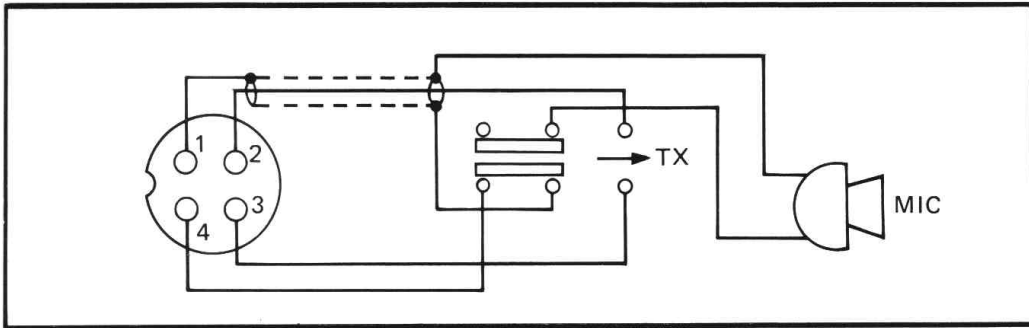

Fig. 3. Cobra 146GTL microphone schematic.
1. Cut leads so that they extend $7/16''$ beyond the plastic insulating jacket of the microphone cable (see Fig. 3 and 4)